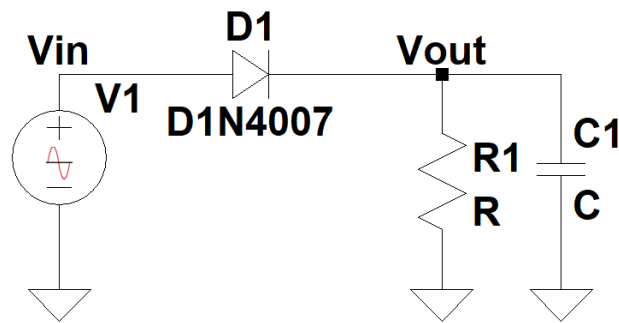

Figure 4 Half Wave Rectifier Circuit with capacitive load
1. Connect the circuit as shown in Figure 4.